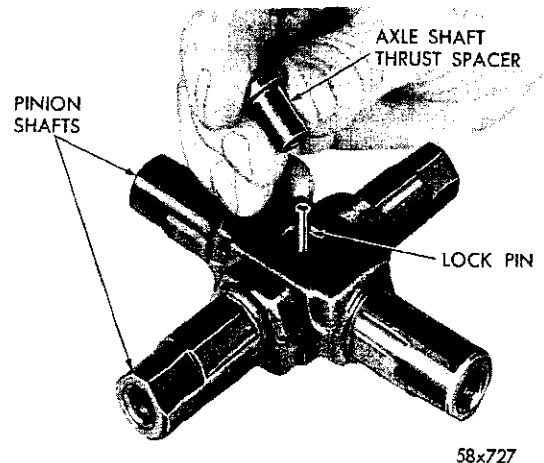

Fig. 42—Installing Axle Shaft Thrust Spacers
(4) Place the pinion gears on shafts and install the assembly on the drive gear half of the case. Insert the thrust spacer in the pinion shaft (Fig. 42).
(5) Slide the cap half of case over the edge of bench far enough to insert one finger up through the assembly to hold it together. Place the assembly on the drive gear half, matching the scribe marks.
(6) Make sure the markings on each differential case half coincide. Install the differential case bolts and turn them in a few threads.
(7) Insert the axle shafts from the vehicle to align the splines. Make sure the axle shafts engage the side gear splines as well as the clutch ring splines.
(8) With the shafts installed, center the cross shafts between the two ramp surfaces in the differential